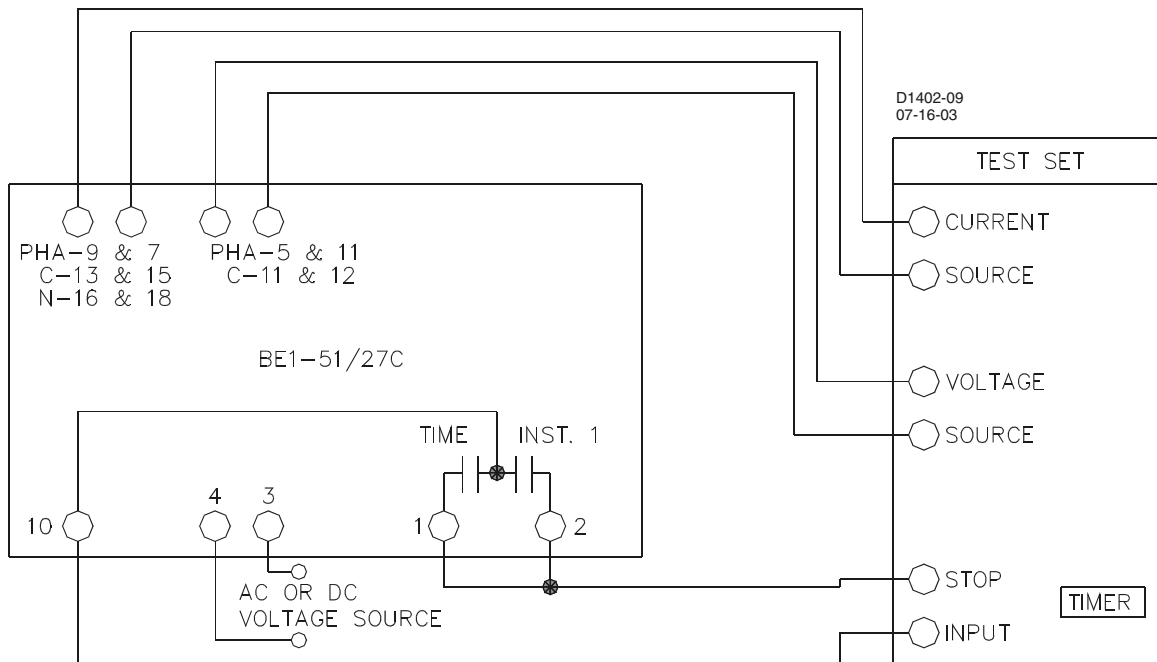

Figure 5-6. Test Setup for Sensing Input Type J (Two-Phase with Neutral Sensing)
- (f) Sensing Input Type J (Two-Phase with Neutral Sensing). Refer to Figure 5-6. Ensure that the timed Output Terminals 1 and 10 are connected. Also, verify that either A, B or C Current Sense Terminals are connected initially (N terminals will be connected later in the test).
- Step 4. Adjust the front panel **INST 1** and **INST 2** controls, if present, fully clockwise (CW).
- (b) Sensing Input Type J (Two-Phase and Neutral Sensing). Remove the power and reconnect the input sensing to the remaining phases as shown in Figure 5-6, each time repeating Steps 1 through 10. For neutral testing continue with Step 12.